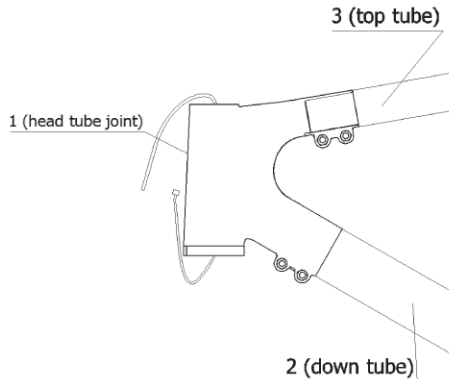

Figure 20-1.
a. Remove the tie from Part 1, as shown in Figure 20-1.